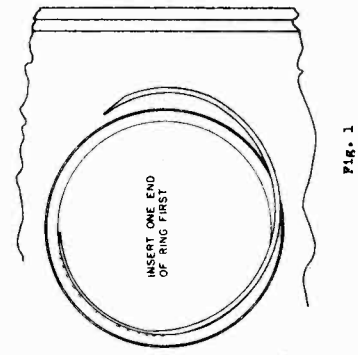

Fig. 1
1. The glass in the cabinet front panel must be removed to allow insertion of the station call letters, as described later. This glass is held in place by a split ring (the split is at the top). See Fig. 1. The tool illustrated is furnished in the same envelope with the instructions. Use the screw-driver end of this tool to remove the split ring by turning it to the left. The screw-driver end, as indicated in Fig. 1. Be very careful not to insert the tool so deep that it touches the glass, else the glass may become chipped.